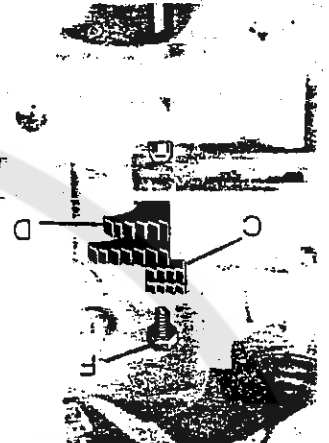

fig. 11
## 8. Mounting and setting Feed Dogs (figures 11 and 12)
- Mount rear feed dogs C and D (fig. 11) and match the feed dog slides.